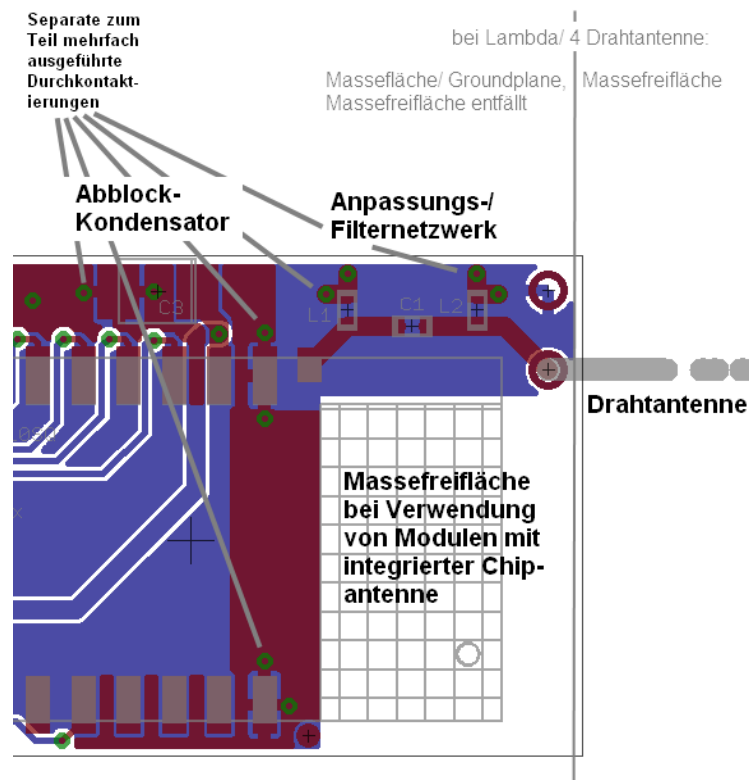
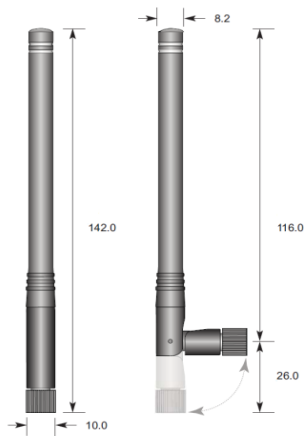

Figure 5 Matching circuit of a $\lambda/4$ antenna
Figure 8 AMB1981:
- The earlier mentioned elements for filtering/ matching are placed directly in the feeding line, one element against ground (**Figure 8 L1**) one element in series (**Figure 5 C1**) and one element against ground (**Figure 5 L2**). Especially for the RF-path it is important to avoid stubs, the elements connecting to ground are placed directly centric in the RF-track. It is also important to use at least one separate via per part to connect to the ground layer.
- First you may assuming, that no filtering/ matching is necessary. The filter can be bridged with a 68 pF capacitor (**Figure 5 C1**).